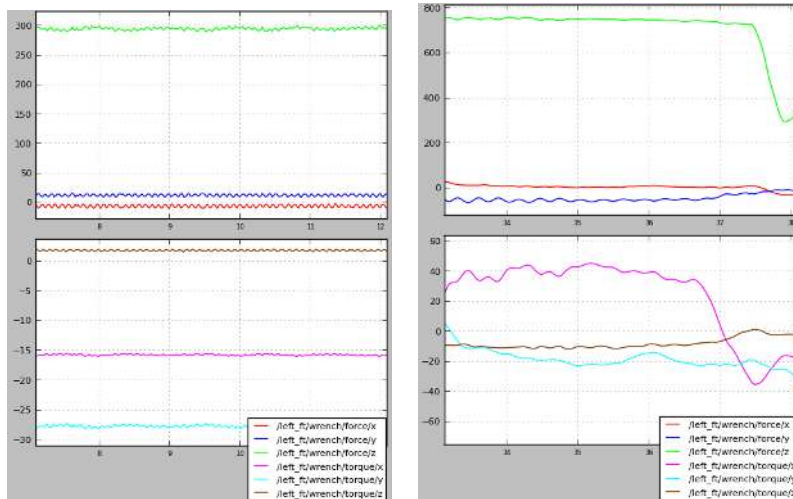

Figure 111: Visualization of force torque sensors with the robot in straight standing position(left) and with the feet pressed by hand(right).
- (b) To test the sensor apply small pressure on the left foot of the robot pushing it against the ground. See that the 'z' value in the 'force' section will increase as shown in Figure 111.